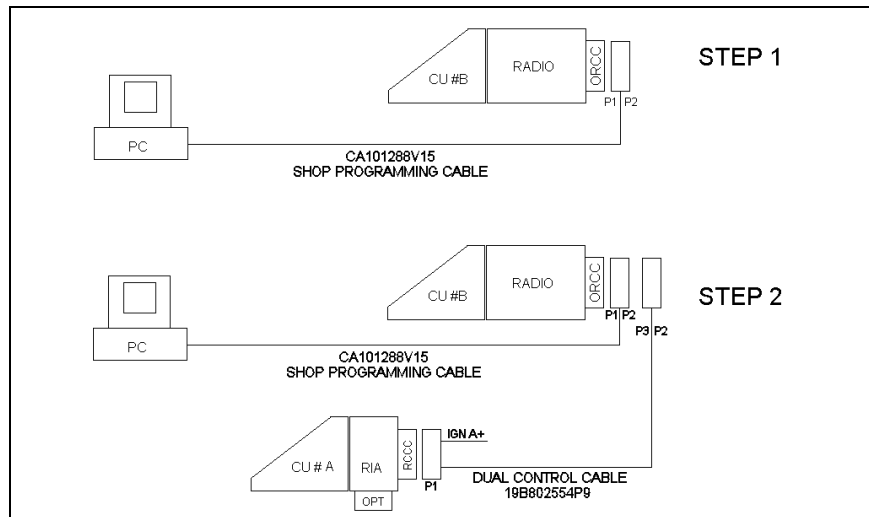

Figure 22 – M7100^{IP} Dual Control Unit PC Programming Configuration
- 1. Connect the M7100^{IP} Front Mount Radio with ProGrammer Assembly, as shown in Figure 22, Step 1. Program the radio with the following control configurations:
- 2. Connect the Front Mount Radio and the Auxiliary Control Unit together with ProGrammer, as shown in Figure 22, Step 2. Program this configuration with the following files: